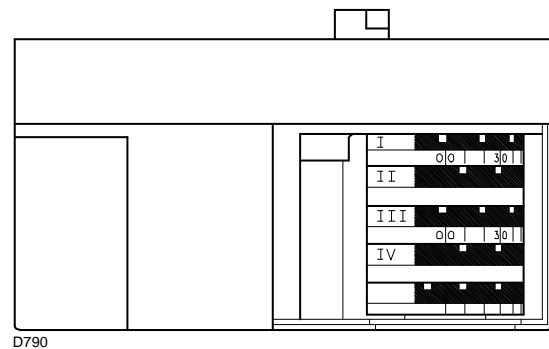

Fig. 23
The servomotor (Fig. 23) provides simultaneous adjustment of the air gate valve 11)(Fig. 24 at page 23) and the pressure regulator 9) by means of a double variable profile cam, 4) and 7).
- 5 s:** Servomotor starts: 90° rotation to right, until contact is made on cam I)(Fig. 23 at page 22).
- 51 s:** Servomotor rotates to left until contact is made on cam III)(Fig. 23 at page 22).
- The burner locks out when demand for heat is less than the heat supplied by the burner in the MIN output (section F-G). Load control TL opens. The servomotor returns to the 0° angle limited by contact with cam II)(Fig. 23 at page 22).